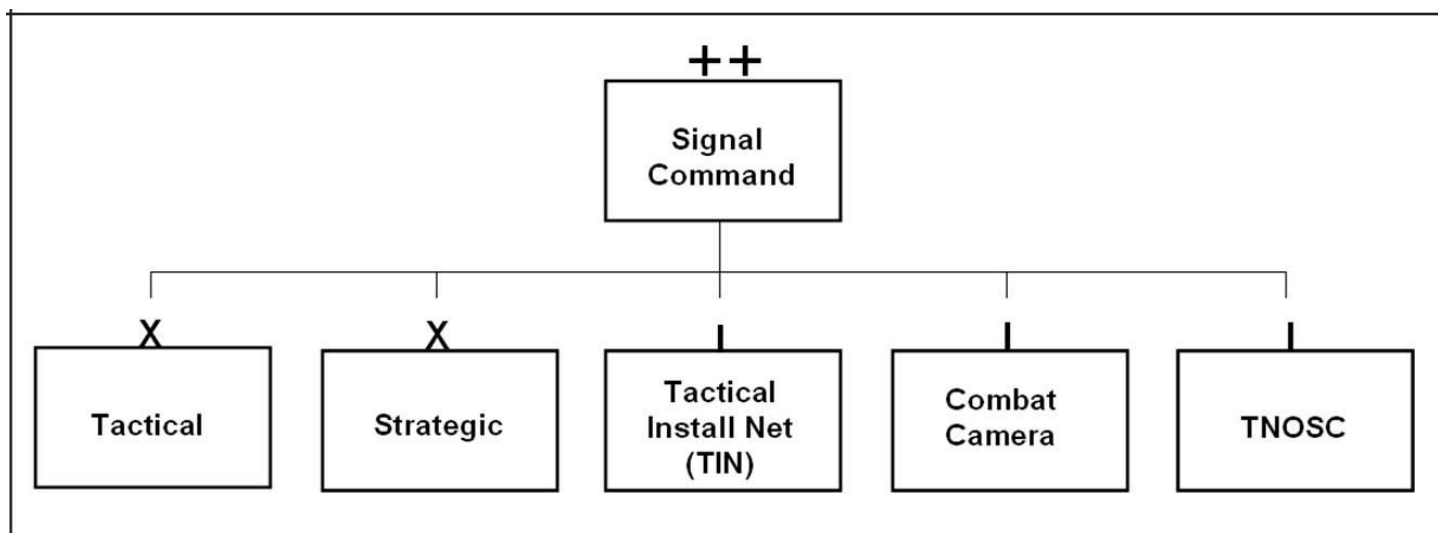

Figure 1-1 SC(T) Subordinate Elements, FMI 6-02.45, 05 JUL 07
The SC(T) is tailored to command and control multiple theater signal brigades (tactical and/or strategic) and joint and coalition Signal support elements. The TNOSC, Tactical Installation Network and combat camera companies typically remain OPCON to theater signal command to provide theater level services and support (see figure 1-1 above), although the task organization may vary based on METT-TC.